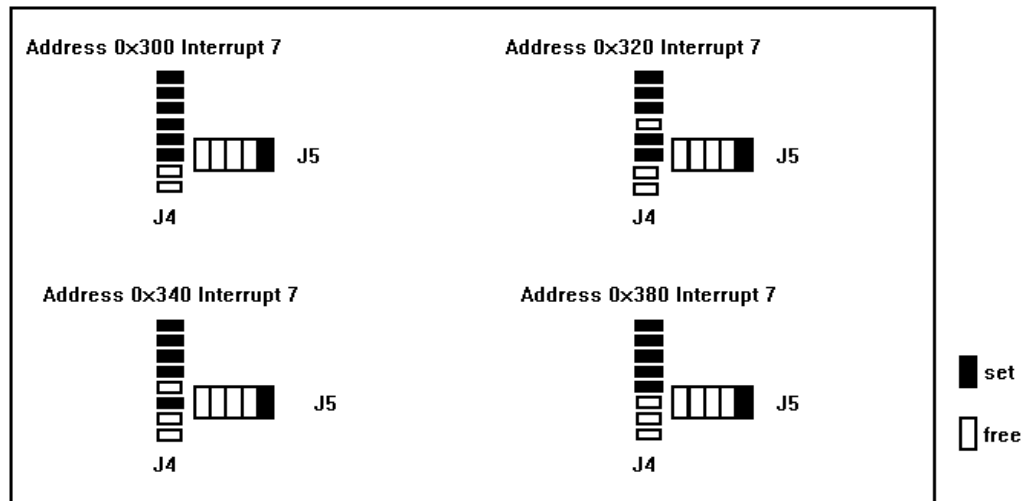

Figure 17: Jumper J4 - Address Setting
- Figure 17 shows the possible settings for the J4 jumpers and the corresponding addresses.